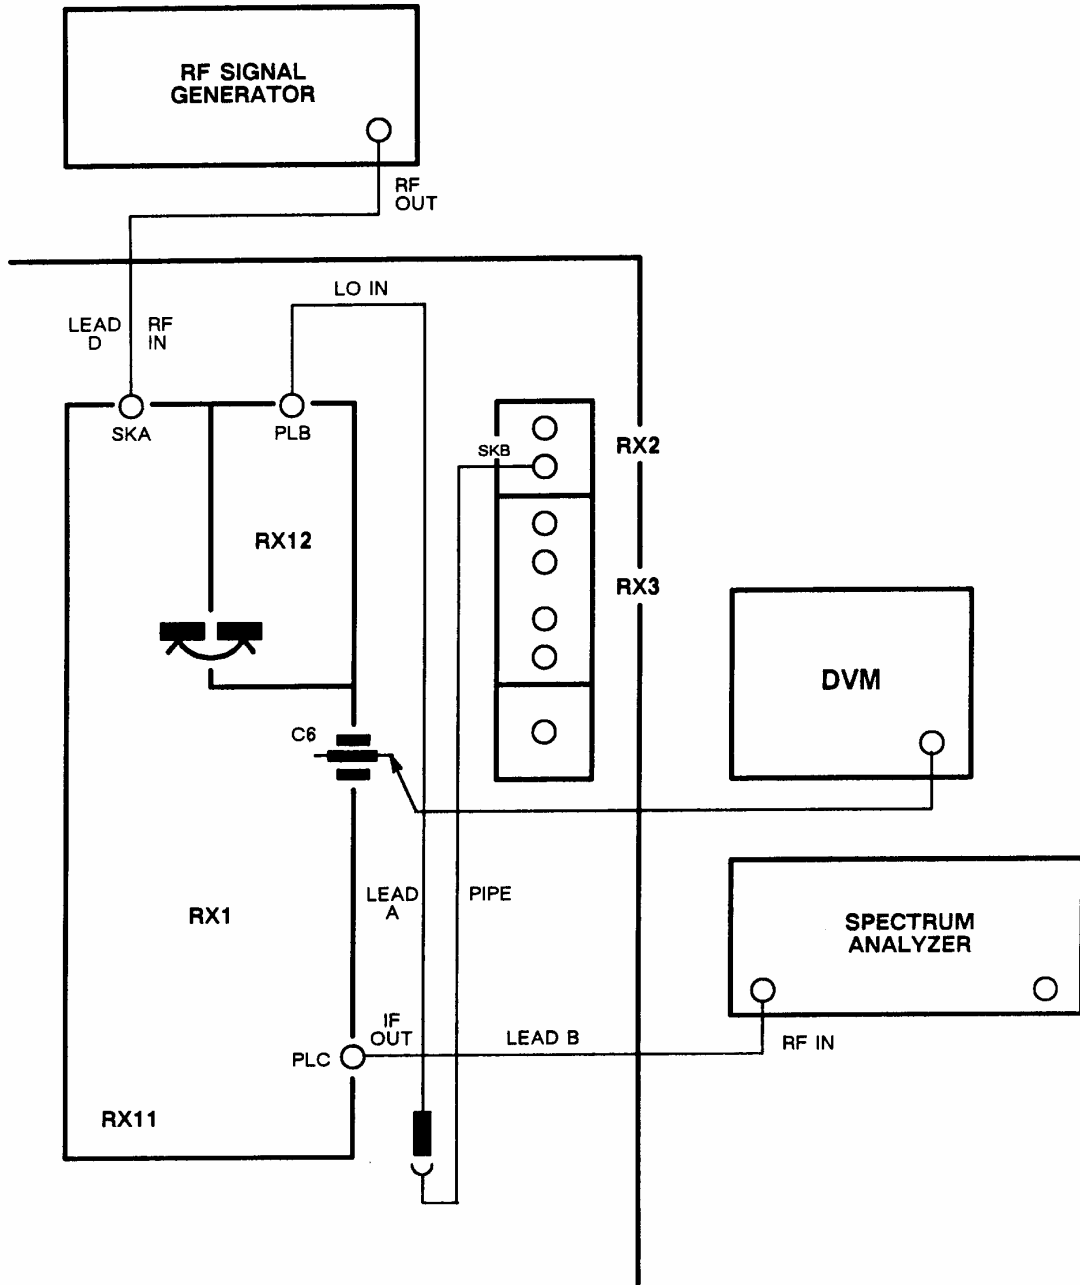

Fig. 5-2-20 Connections for AGC and 38 dB amplifiers
- (1) Using lead A, connect its SMC plug to the free end of the pipe to SKB on RX2 and connect its SMC socket to PLB on RX1. See Fig. 5-2-20.
- (2) Using lead B, connect its SMC socket to PLC on RX1 and connect its other end to the spectrum analyzer (RF input).
- (3) Using lead D, connect its SMA plug to SKA on RX1 and connect its other end to the RF signal generator (RF out).
- (4) Connect the DVM to C6 on RX1. C6 is connected to PLA pin 14 on RX11 (yellow wire). Earth the probe on the wall of the tray.